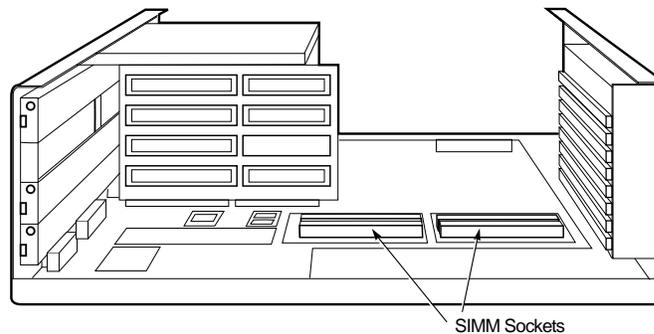

Figure A-15. Location of SIMM Sockets in Master Controller II+
1. Locate the empty SIMM sockets, as shown in Figure A-15. They are under any expansion boards that may be installed. You will need to remove these boards to install the SIMMs.